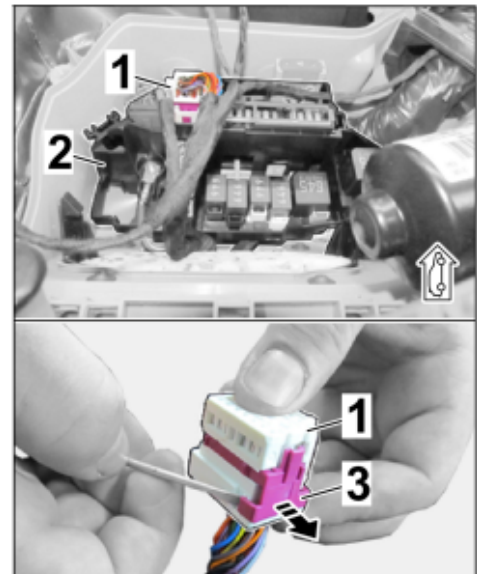

Figure 29
2.5.4 Remove and release connector (17-pin, white) from fuse/relay carrier (E-box, connection point X372.1A1) (⇒ Figure 29).